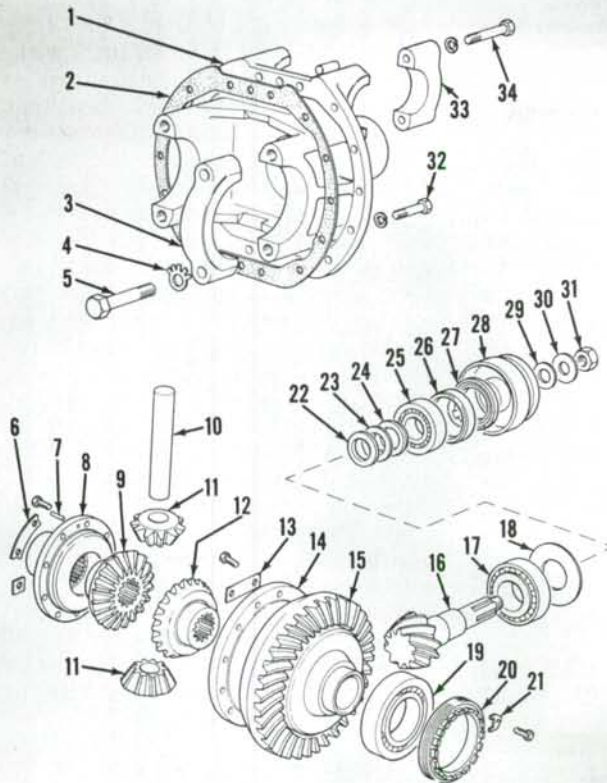

Fig. 11—Exploded view of David Brown differential assembly showing component parts and their relative positions.
Remove pinion shaft locknut (31—Fig. 11), then drive pinion shaft through flange (28) and carrier (1). Front spacer (22), shims (23) and rear spacer (24) should remain on pinion shaft as it is removed. Remove remaining bearing cups and shims from carrier (1) as necessary. Inspect bearings and spacers on pinion shaft and renew as necessary.
Assemble pinion shaft in carrier minus shims (18—Fig. 11), oil seal (27), spacer (26), sealing washer (29), front spacer (22), shims (23) or rear spacer (24). Install flange (28), retaining washer (30), and locknut (31) on pinion shaft (16) and tighten locknut until all end play of pinion shaft is just removed, then tighten locknut just a small amount more to slightly preload bearings. Install special tool in carrier bearing bores as shown in Fig. 12. Install shaft (CAS-1236-6), probe and spacer (CAS-1609) and locknut (CAS-1234-4) of special tool so probe point lightly contacts face of pinion shaft gear. Tighten locknut to lock probe in this position. Using a feeler gage, measure and record amount of gap between spacer and probe. See Fig. 13.
Noting that special tool has a built in dimension of 0.030 inch (0.76 mm), substitute actual gap measurement and shaft correction number for figures shown in the following example to determine thickness of shims (18—Fig. 11) needed to correctly set pinion shaft protrusion.
Reassemble pin shaft with spacers (22 and 24—Fig. 11) using 1.27 mm (0.050 inch) thick shims (23), but without spacer (26), oil seal (27) and sealing washer (29). Install flange (28), washer (30) and nut (31) on pinion shaft and tighten nut to 190 N·m (140 ft.-lbs.) torque. Turn shaft in both directions to seat bearings, then mount a dial indicator on carrier so probe contacts end of pinion gear as shown in Fig. 14 and measure shaft end play. Remove pinion shaft and reduce thickness of shims (23—Fig. 11) an amount equal to measured end play. This procedure will provide zero end play and zero preload. However, a tolerance of plus or minus 0.05 mm (0.002 inch) is acceptable.